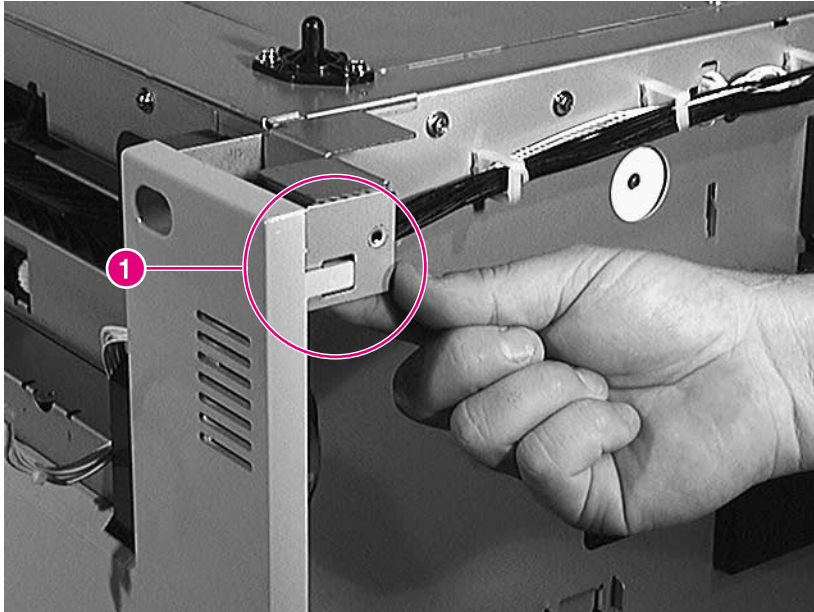

Figure 6-91 **Right Cover (3 of 3)**
- 4 Release the tab from the right side of the Right Cover as shown in figure 6-91 (callout 1).